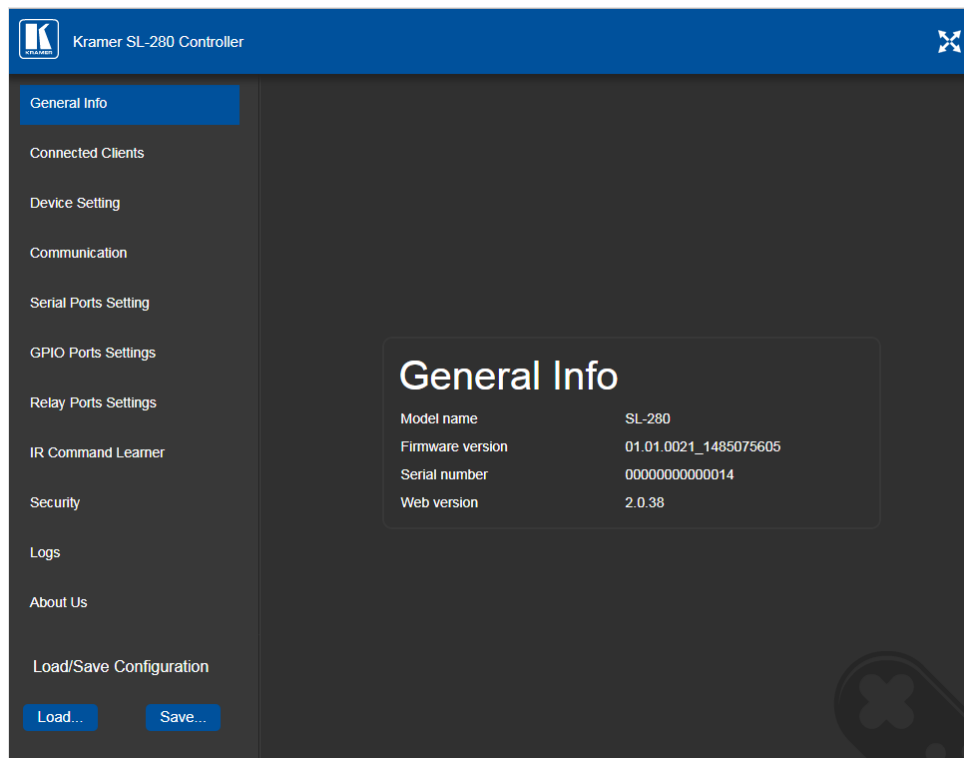

Figure 5: Embedded Web Pages – General Info Page
1. Click **Connected Clients** on the left side of the web page (Figure 5). The Connected Clients page appears.
1. Click **Device Settings** on the left side of the web page (Figure 5).
1. Click **Communication** on the left side of the web page (Figure 5). The Communication page appears.
1. Click **Serial Ports Setting** on the left side of the web page (Figure 5). The Serial Ports Setting page appears.
1. Click **GPIO Ports Settings** on the left side of the web page (Figure 5). The GPIO Ports Settings page appears.